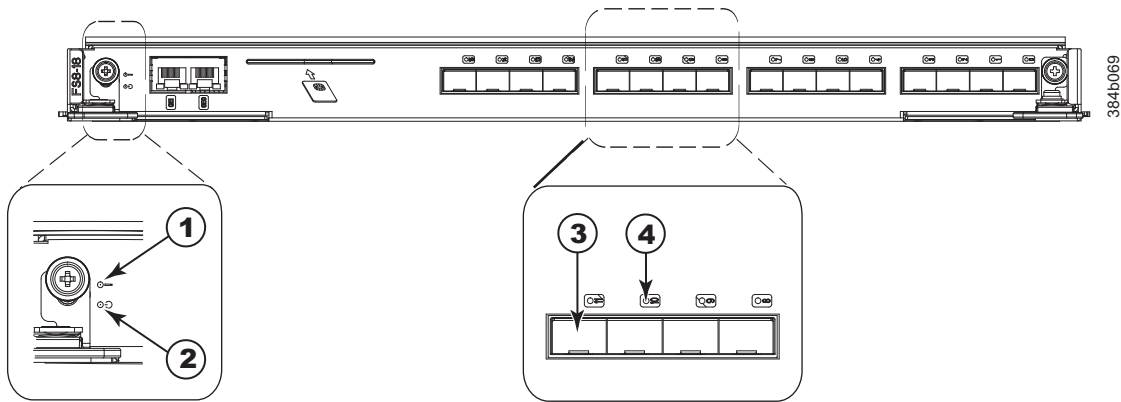

Figure 27. FS8-18 encryption blade
- Figure 27 on page 62 illustrates the FS8-18 encryption blade